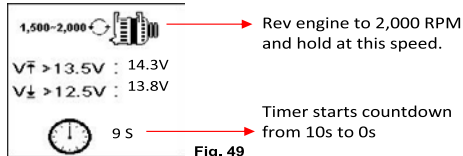

Fig. 49
8. Press key and the display will change to as shown in Fig. 49 below. Rev the engine up around 1,500 to 2,000 RPM by referring to the dashboard meter maintain the engine speed as shown in the example: (Fig. 49)